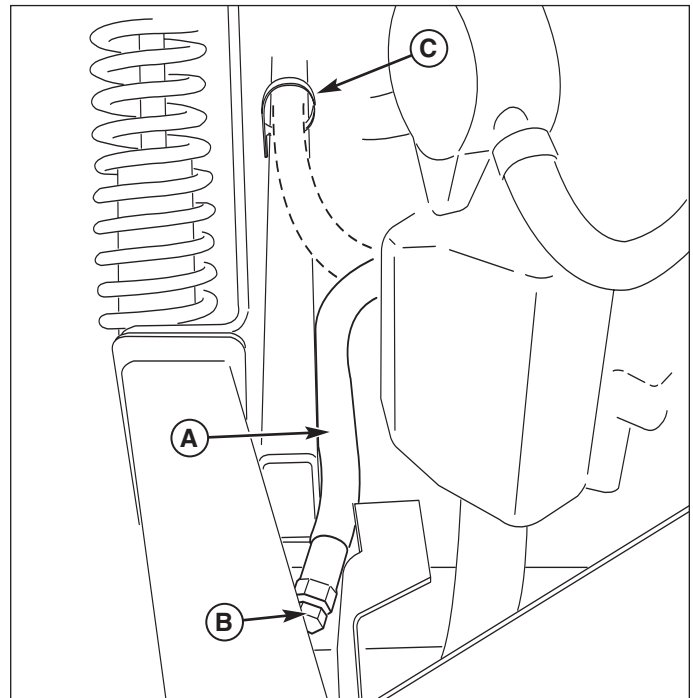

Figure 11. Engine Oil Drain
2. Remove the oil drain hose (A, Figure 11) from the cable clamp (C) on the frame and route the hose towards the rear of the machine as shown in Figure 11.